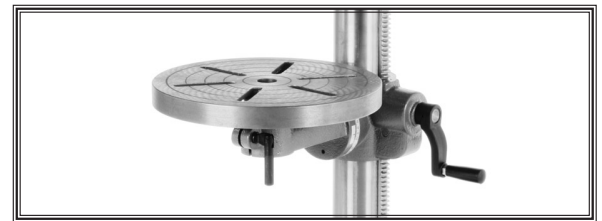

Figure 16. Table installed.
2. Tighten the small locking lever (**Figure 16**) to secure the table in the table support assembly.